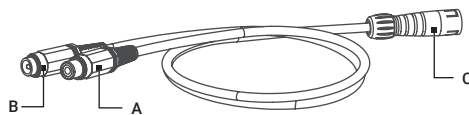

FIGURE 2-12. VIDEO CABLE
Use the video cable plug (A, Figure 2-12) to connect an external video recorder/monitor/TV to the Anaconda. Connect the video cable plug (C) to the Anaconda S620 universal connector.